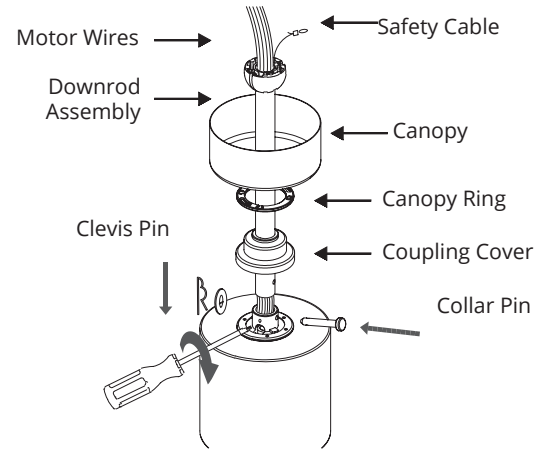

FIGURE 8
1. Remove the clevis pin and cotter pin and loosen the two collar screws from the motor collar (Fig. 8).
4. Thread the downrod assembly onto motor collar. Align the holes of downrod and collar and insert the cotter pin and clevis pin. Tighten the two collar screws (Fig. 8).